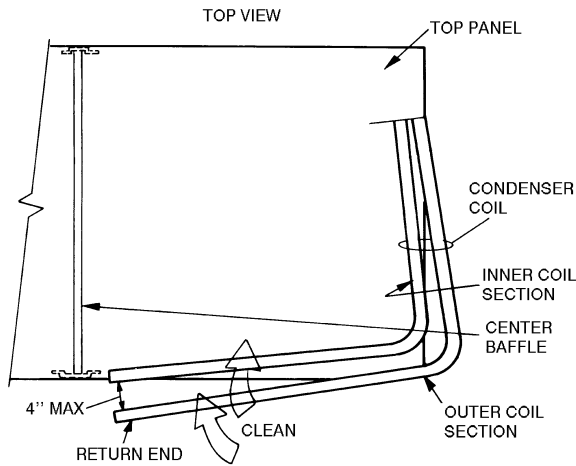

Fig. 45 — Separating Coil Sections
4. Remove device holding coil sections together at return end of condenser coil. Carefully separate the outer coil section 3 to 4 in. from the inner coil section. See Fig. 45.